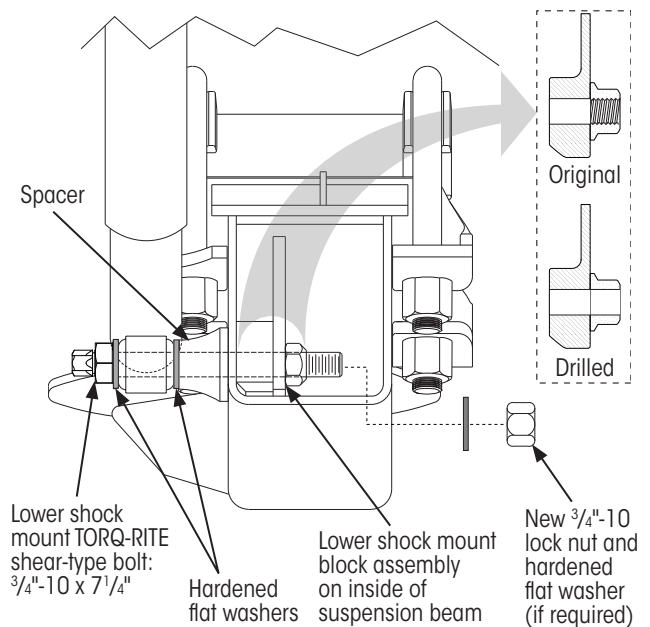
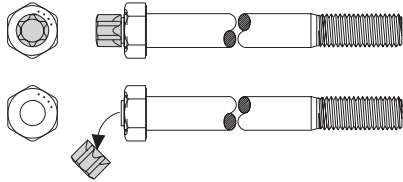

Figure 1: Lower shock bolt assembly
Figure 2: TORQ-RITE® shear-type hex-head bolt
Use this procedure to install the lower shock mount hardware (Figure 1).
1. **Inspect** threads on the existing lower shock bolt and lower shock mount block assembly (Figure 1). **If the threads are OK, skip to Step 3.**
2. Drill out threads if the original nut using a 3/4-inch drill bit (Figure 1).
3. Assemble the new 3/4"-10 x 7 1/4" TORQ-RITE shear-type hex-head bolt (Figure 2) onto the shock with two harden flat washers and spacer as shown in (Figure 1). New fastener hardware is supplied with the service parts kit.
6. Reaching through the rear of the suspension beam, slide the third hardened flat washer (supplied with the service parts kit) over the threads of the lower shock bolt (Figure 1).
9. Using a Torx E20 3/4-inch drive socket and 3/4-inch impact wrench, tighten the TORQ-RITE shear-type hex-head bolt until the shear head feature separates from the bolt head as shown in Figure 1. This will occur at 225±10 ft. lbs. (300±10 Nm).